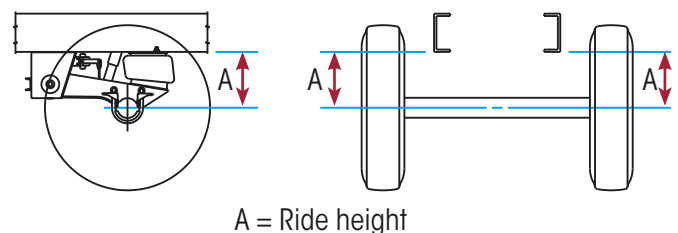

Figure 187: Comparing Side to Side Ride Height
7. Check that the ride height (A) is relatively equal from side to side (Figure 187) with the axle parallel to the trailer frame and the suspension beams parallel to each other.